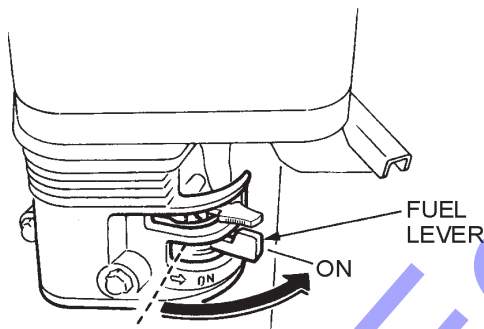

Figure 7. Engine Fuel Valve Lever (ON Position)
1. Place the engine *fuel valve lever* (Figure 7) to the "ON" position.